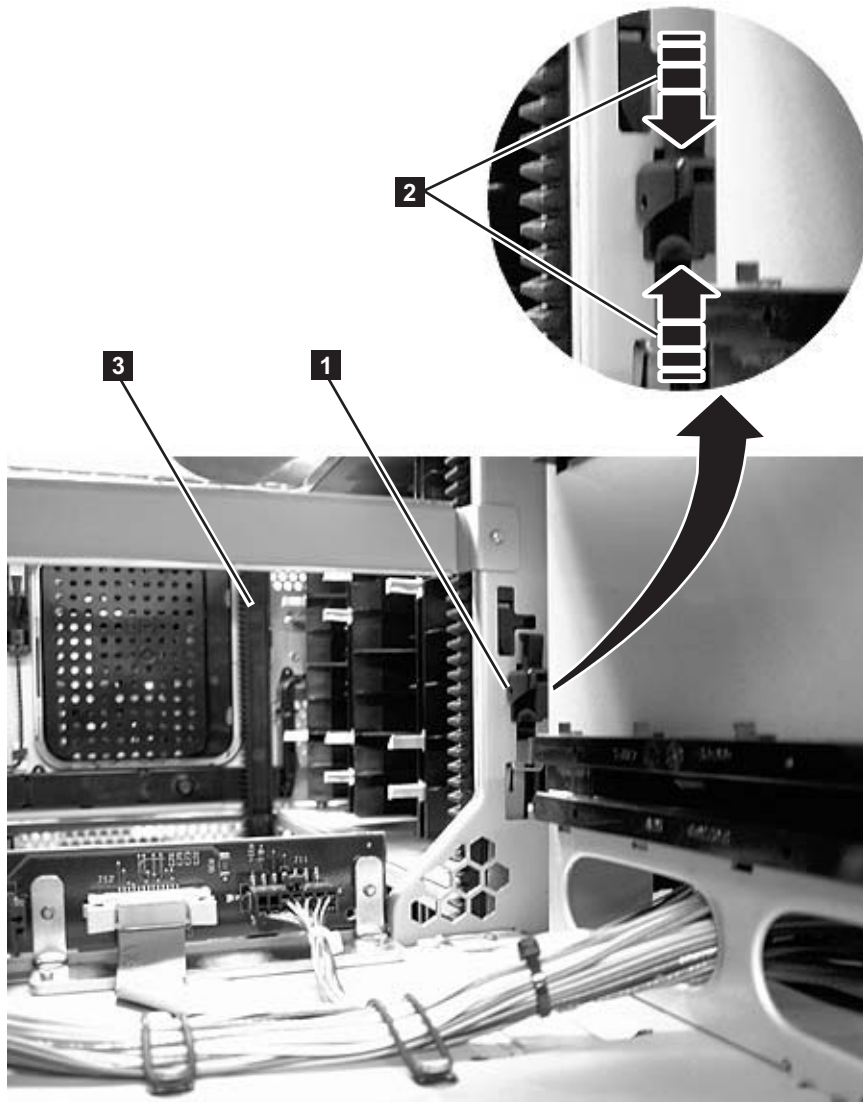

Figure 11-13. Gear rack
In order for the picker to move from one unit to the next in a multi-module library, the front (**3** in Figure 11-13 on page 11-20) and rear (**1** in Figure 11-13 on page 11-20) gear racks in the control module must be properly aligned with the gear racks in the expansion module.
Verify that the front (**3** in Figure 11-13) and rear (**1** in Figure 11-13) gear racks are properly aligned and positioned.
- In a control module, verify that the gear racks are in the down position. Pinch the gear rack locking mechanism (**2** in Figure 11-13) and push the gear rack down. Ensure that the lock is not engaged in the hole in the frame.
- Verify that the gear racks are in the down position. Pinch the gear rack locking mechanism (**2** in Figure 11-13) and push the gear rack down. Ensure that the lock is not engaged in the hole in the frame.
1. Slightly push up and pinch the gear rack locking mechanism (**1** in Figure 11-13 on page 11-20) to unlock the gear rack in the control module.
2. While pinching the gear rack locking mechanism (**2** in Figure 11-13 on page 11-20), push the gear rack down until it aligns with the gear rack in the expansion module, then release your hold on the locking mechanism.